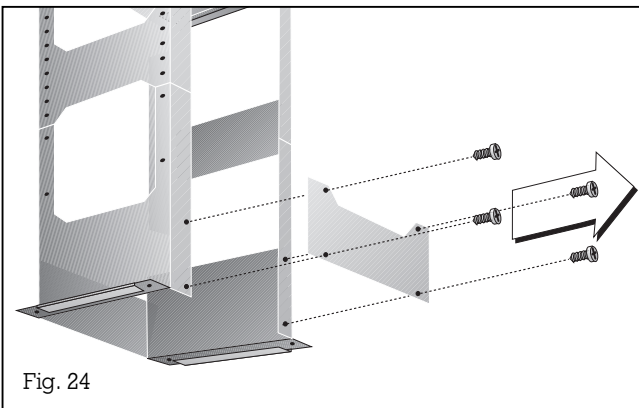

Fig. 24
6. Remove the cover plate from the rear of the support frame (Fig. 24).